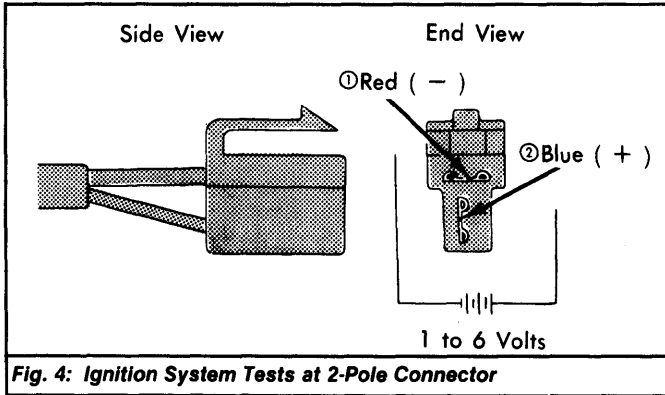

Fig. 4: Ignition System Tests at 2-Pole Connector
- 2) If reading in step 1) was within 1 volt of battery voltage, turn ignition off and disconnect 2-pole connector. See Fig. 4.